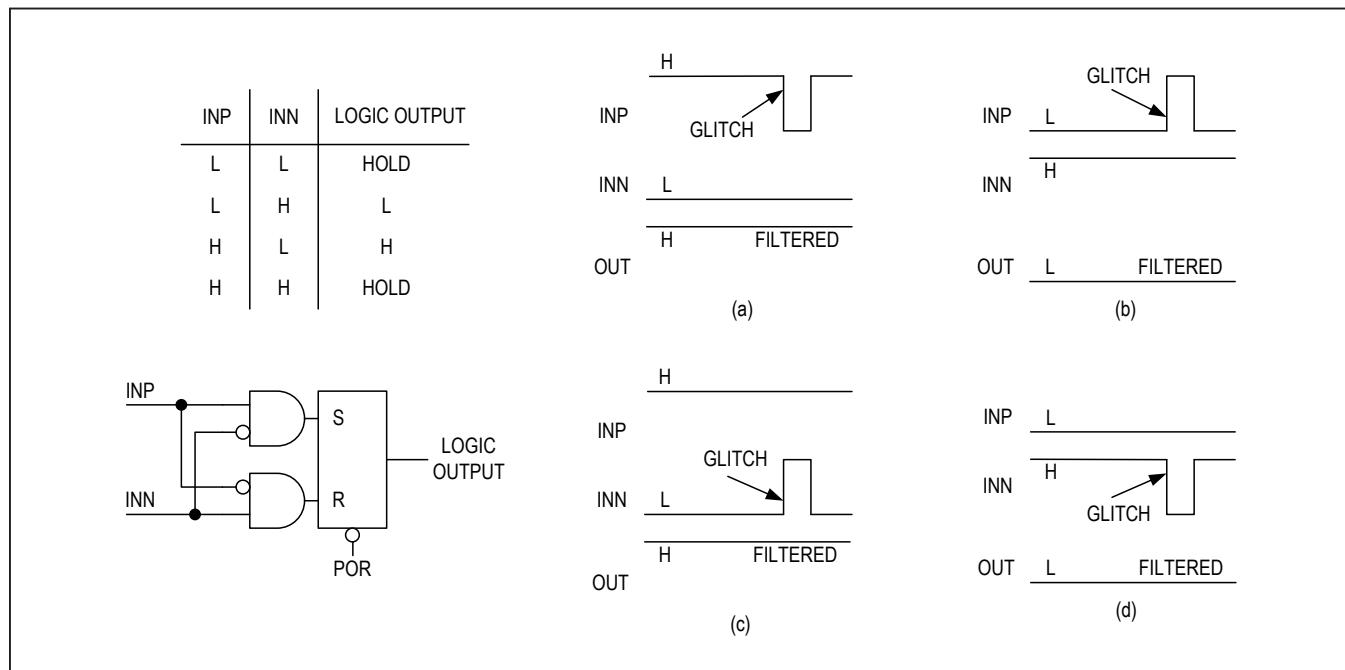
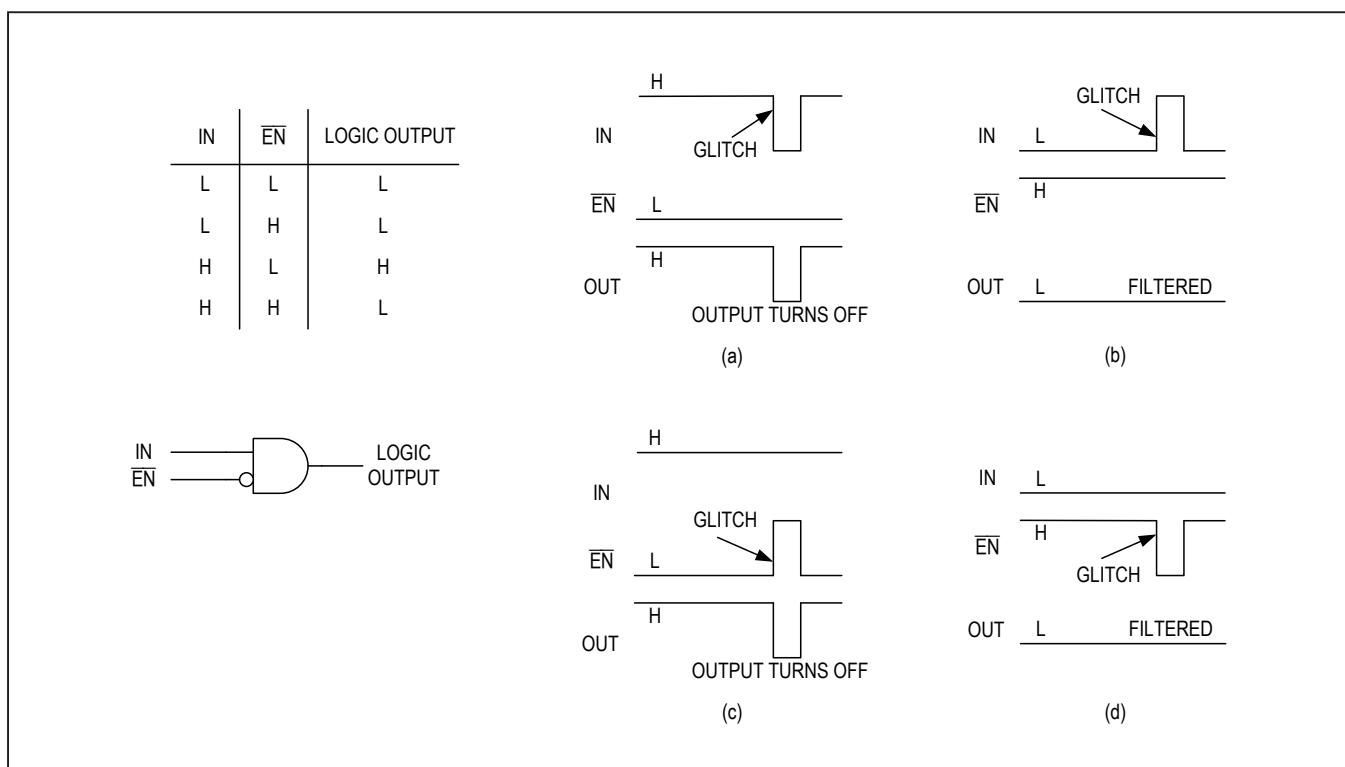

Figure 5. MAX2270_D Differential Inputs
Figure 6. MAX2270_E Single-Ended Input with Enable
The MAX2270_D features differential PWM inputs (INP and INN). The differential inputs reject input glitches and prevent false turn-on of the output. The output will hold the previous value when a glitch is detected on either input (Figure 5). The MAX2270_E features a single-ended input (IN) and an active-low input enable (\overline{EN}). The \overline{EN} pin allows the output (OUT) to be quickly set to logic-low, turning off the external power transistor. The output remains at logic-low until the PWM input (IN) receives a logic-high signal (Figure 6).